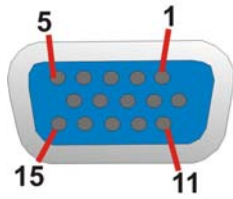

Figure 3-28: VGA Connector
- CN Pinouts:** See **Figure 3-28** and **Table 3-28**